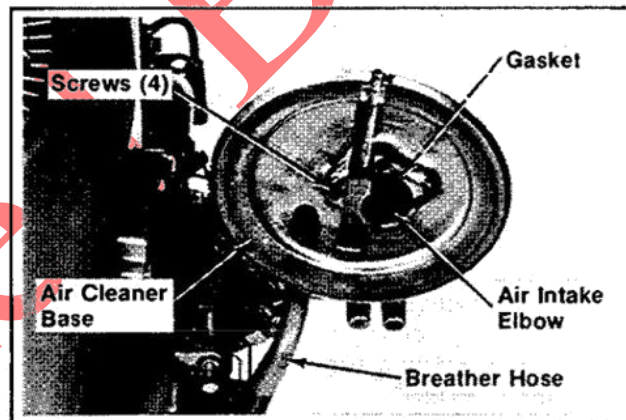

Figure 9-5. Removing Air Cleaner Base.
3. Remove the four screws securing air cleaner base to intake elbow. Remove the base, breather hose, and gasket. Refer to Figure 9-5.